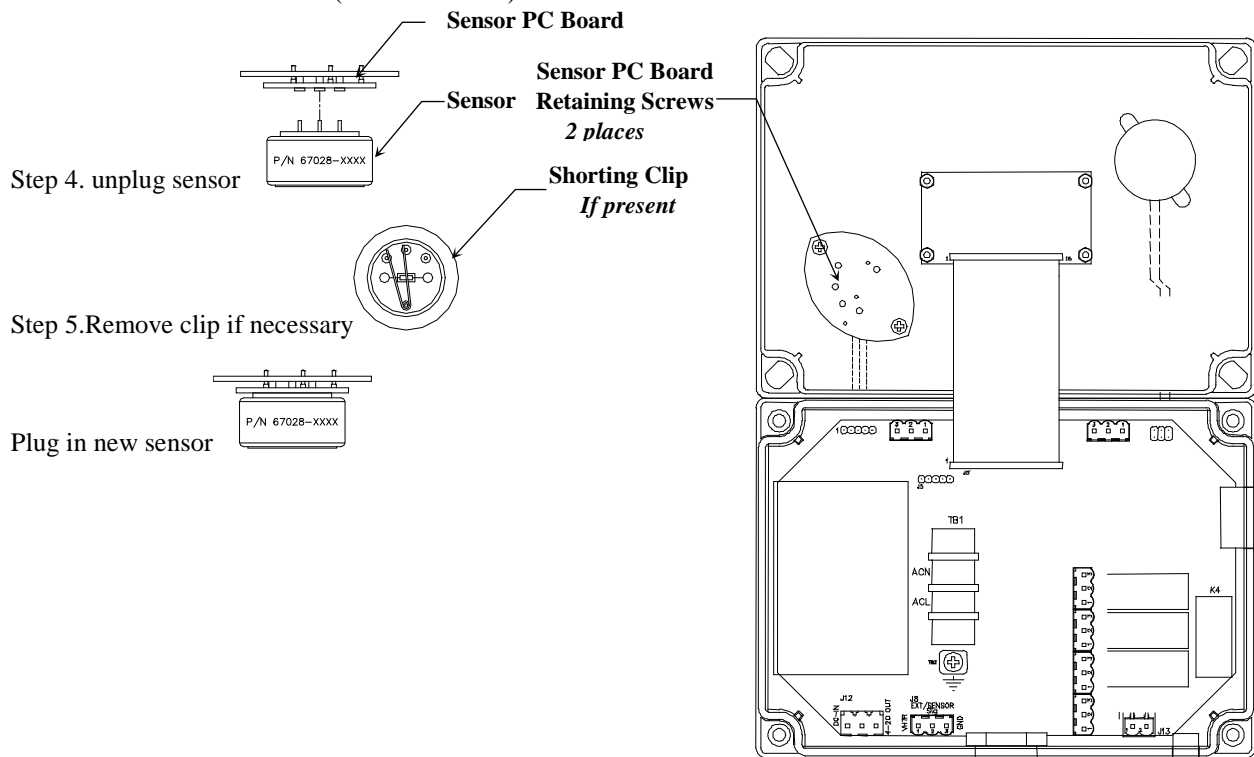

Figure 8: AM-5175 Sensor Replacement
4. Unplug the sensor from the PC Board. **See Figure 8**
5. Plug the new sensor into the PC Board. **See Figure 8**